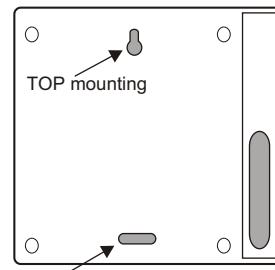

Fig. 8
2. Locate the terminals labeled AC on the main board (refer to Fig. 8).
3. Using the 6-ft power cord with in-line switch, connect the pre-stripped wires to the 12V AC 20VA transformer terminals (refer to Fig. 10). Strip the insulation on the opposite ends of the wires back approximately 1/4inch, and insert into receiver terminals labeled 12V AC input (Refer to Fig. 8.).
2. Align the receiver housing and secure the BOTTOM mounting screw firmly in place (Refer to Fig. 8).